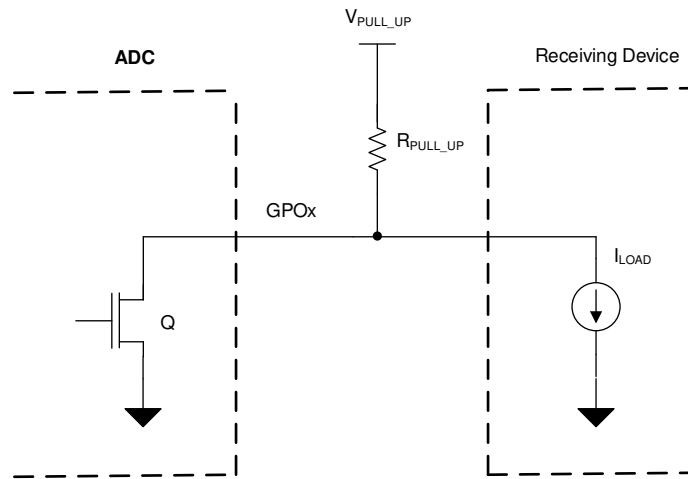

Figure 49. Digital Open-Drain Output
The channels of the TLA2518 can be configured as digital open-drain outputs supporting an output voltage up to 5.5 V. An open-drain output, as shown in Figure 49, consists of an internal FET (Q) connected to ground. The output is idle when not driven by the device, which means Q is off and the pullup resistor, R_{PULL_UP} , connects the GPOx node to the desired output voltage. The output voltage can range anywhere up to 5.5 V, depending on the external voltage that the GPIOx is pulled up to. When the device is driving the output, Q turns on, thus connecting the pullup resistor to ground and bringing the node voltage at GPOx low.